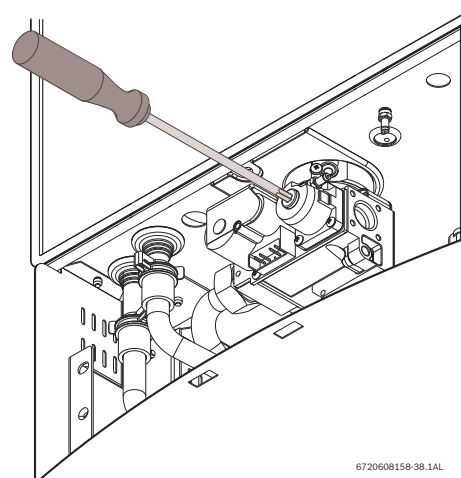

Fig. 59 Adjusting P2 CO₂ level
- Remove yellow painted #40 Torx cover from the front of the gas valve. (Fig. 59) A plastic #40 Torx screw will be revealed.